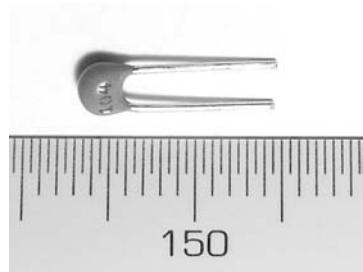
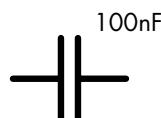

Figure 4-12: A 0.1  $\mu\text{F}$  ceramic capacitor
Figure 4-13: A nonpolarized capacitor schematic symbol, with the capacitor's value shown at the upper right
Reading the value of a ceramic capacitor takes some practice, because the value is printed in a sort of code. The first two digits represent the value in picofarads, and the third digit is the multiplier in tens. For example, the capacitor shown in Figure 4-12 is labeled 104. This equates to 10, followed by four zeros, which equals 100,000 picofarads/pF (100 nanofarads [nF], or 0.1 microfarads [ $\mu\text{F}$ ]).
*Ceramic capacitors*, such as the one shown in Figure 4-12, are very small and therefore hold a small amount of charge. They are not polarized and can be used for current flowing in either direction. The schematic symbol for a nonpolarized capacitor is shown in Figure 4-13.